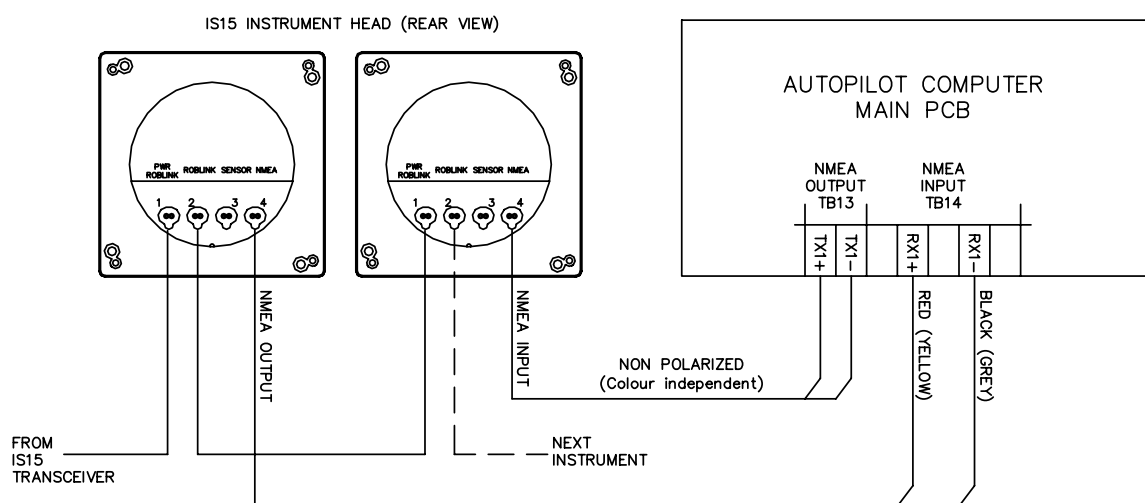

Figure 3-26 IS15 Instruments / Autopilot computer connection
The connection is made by a Roblink cable from the instrument NMEA socket (4) to the Autopilot Computer Main Board, Terminal RX1+ and RX1-. See Figure 3-26.
The connection is made by a Roblink cable from Autopilot Computer Main Board, terminal TX1+ and TX1- to the instrument NMEA socket (4). See Figure 3-26.